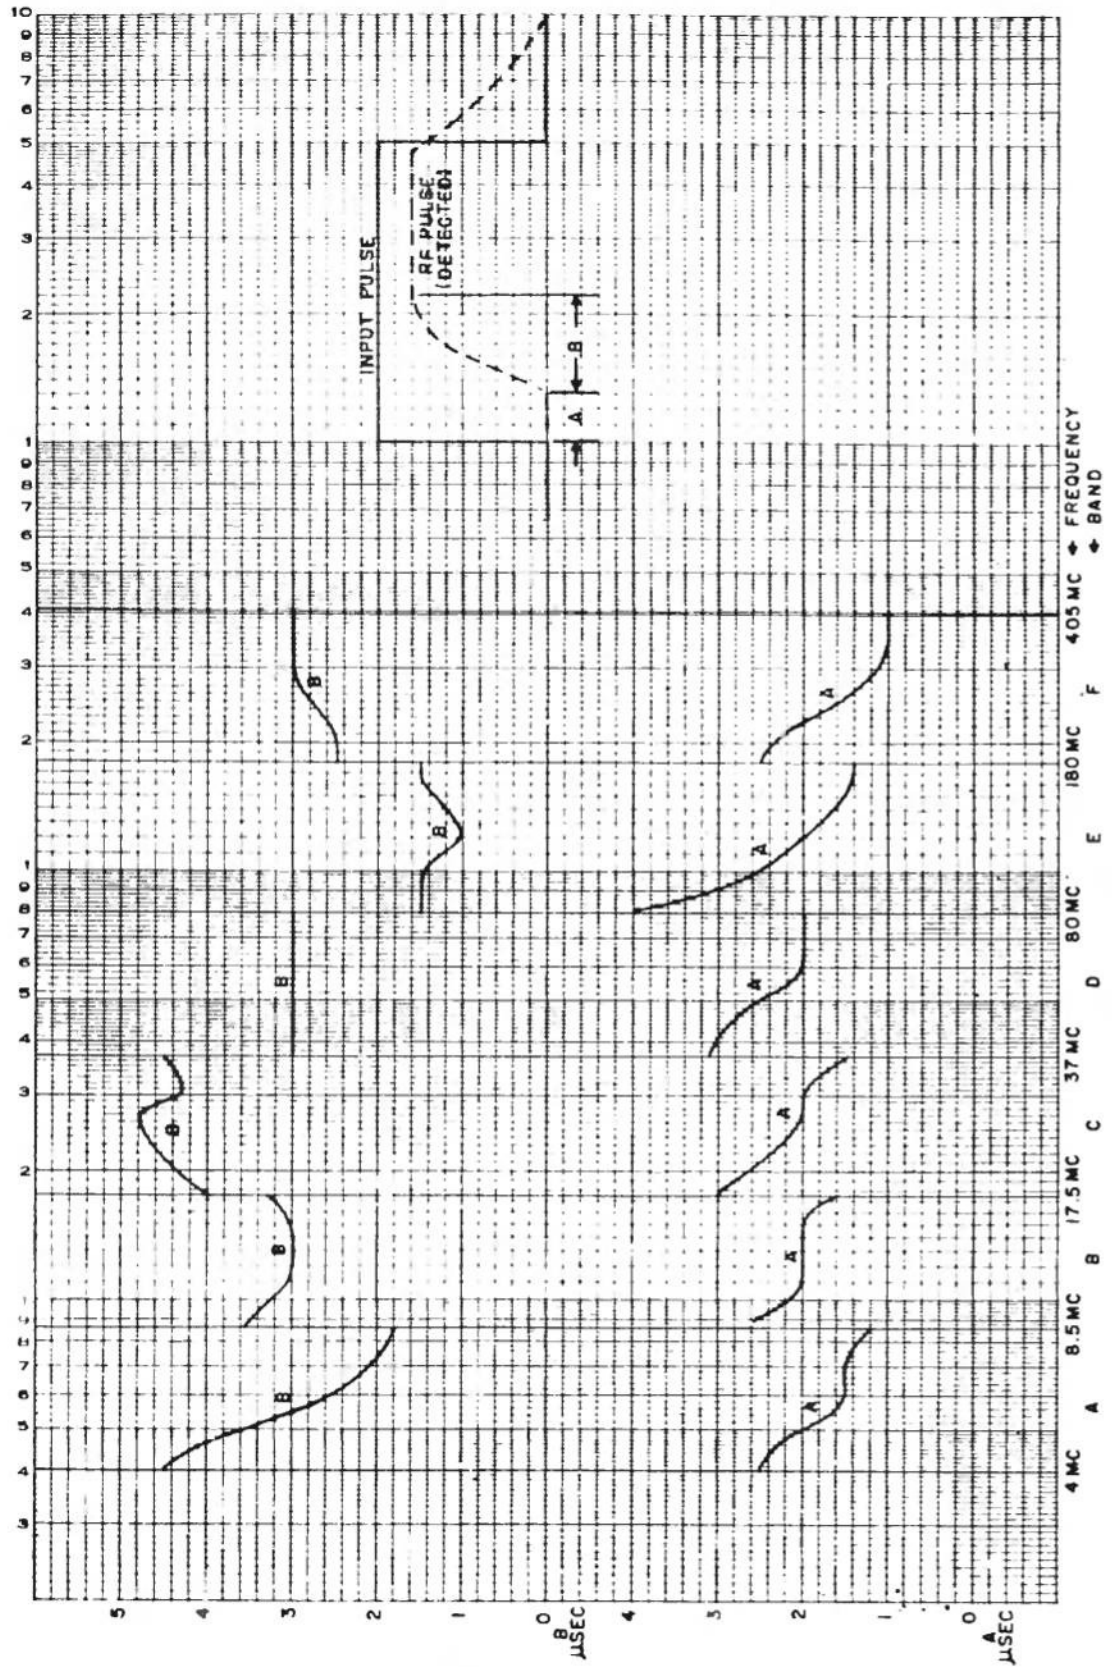
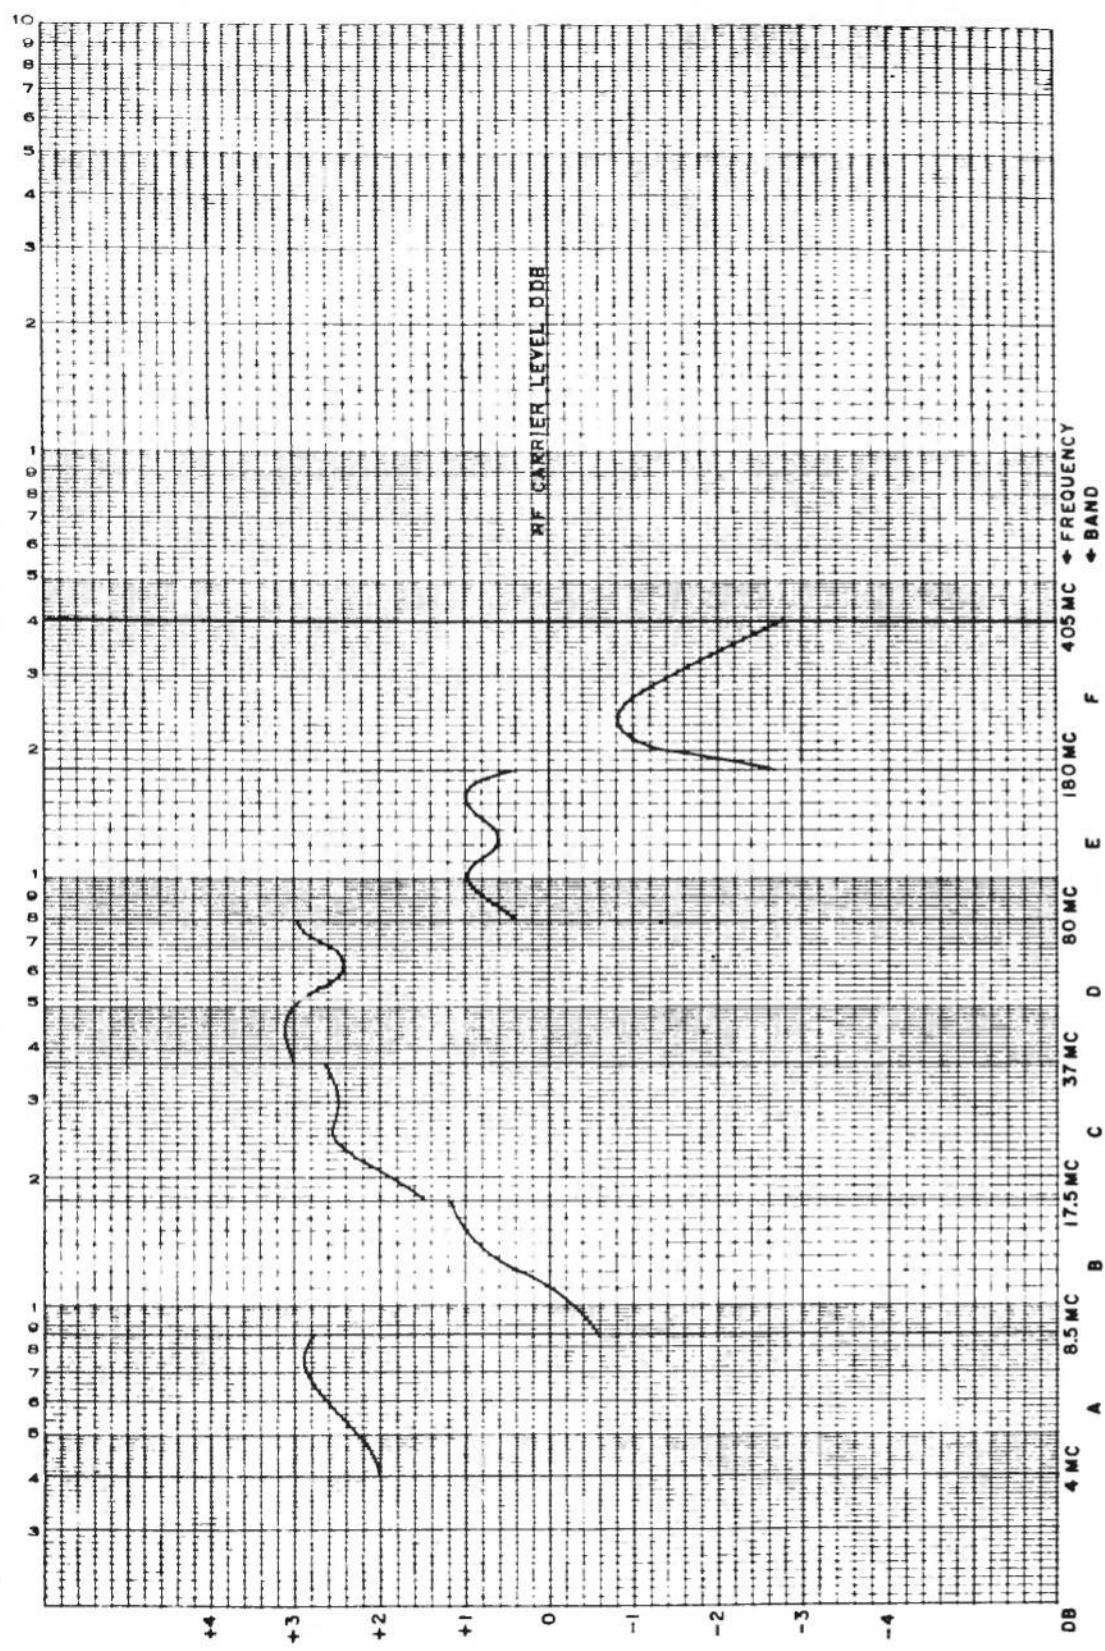

Figure 3-3. Chart of Input-Output Pulse Duration Relationship.
Figure 3-4. Chart of RF Pulse Voltage Determination.
a. The Signal Generator can be externally modulated by positive-going pulses having a repetition rate from 50 to 5000 pulses per second. For input versus rf output pulse duration see figure 3-3. The minimum pulse amplitude *must be* 40 volts for proper modulation characteristics. See figure 3-4 for RF pulse voltage determination. An analysis of the pulsing circuit is given in par. 4-3. It must be realized that the reading indicated on the dial of the rf output attenuator does not show the absolute output level of the pulse modulated signal. For a given pulse, the relative rf output amplitude can be varied by rotating the RF OUTPUT control; its absolute magnitude can be found from figure 3-4.
(1) Select the required carrier frequency, using the BAND SELECTOR and TUNING controls.
(2) Rotate the MOD & METER SELECTOR switch to PULSE position.
(3) Connect the source of external pulses to the signal generator at panel jack J103, which is now active in PULSE INPUT function.
(4) Adjust the amplitude of the signal rf output pulse by varying the RF OUTPUT attenuator (see figure 3-3 and 3-4). If greater accuracy of pulse width and amplitude is required, monitor the output with Oscilloscope AN/USM-38 and a UHF diode such as 1N126. See figure 4-6 for oscilloscope hookup.